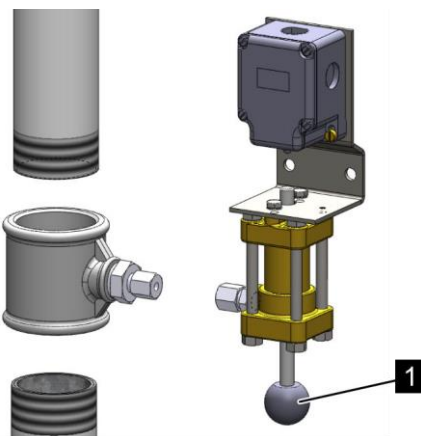

Fig. 180: Checking limit switches
2. ➤ Press the pushbutton (Fig. 180/1) on the cylinder of the limit switch in the direction of the limit switch.
4. ➤ Return the pushbutton to the resting position (as shown in Fig. 180).